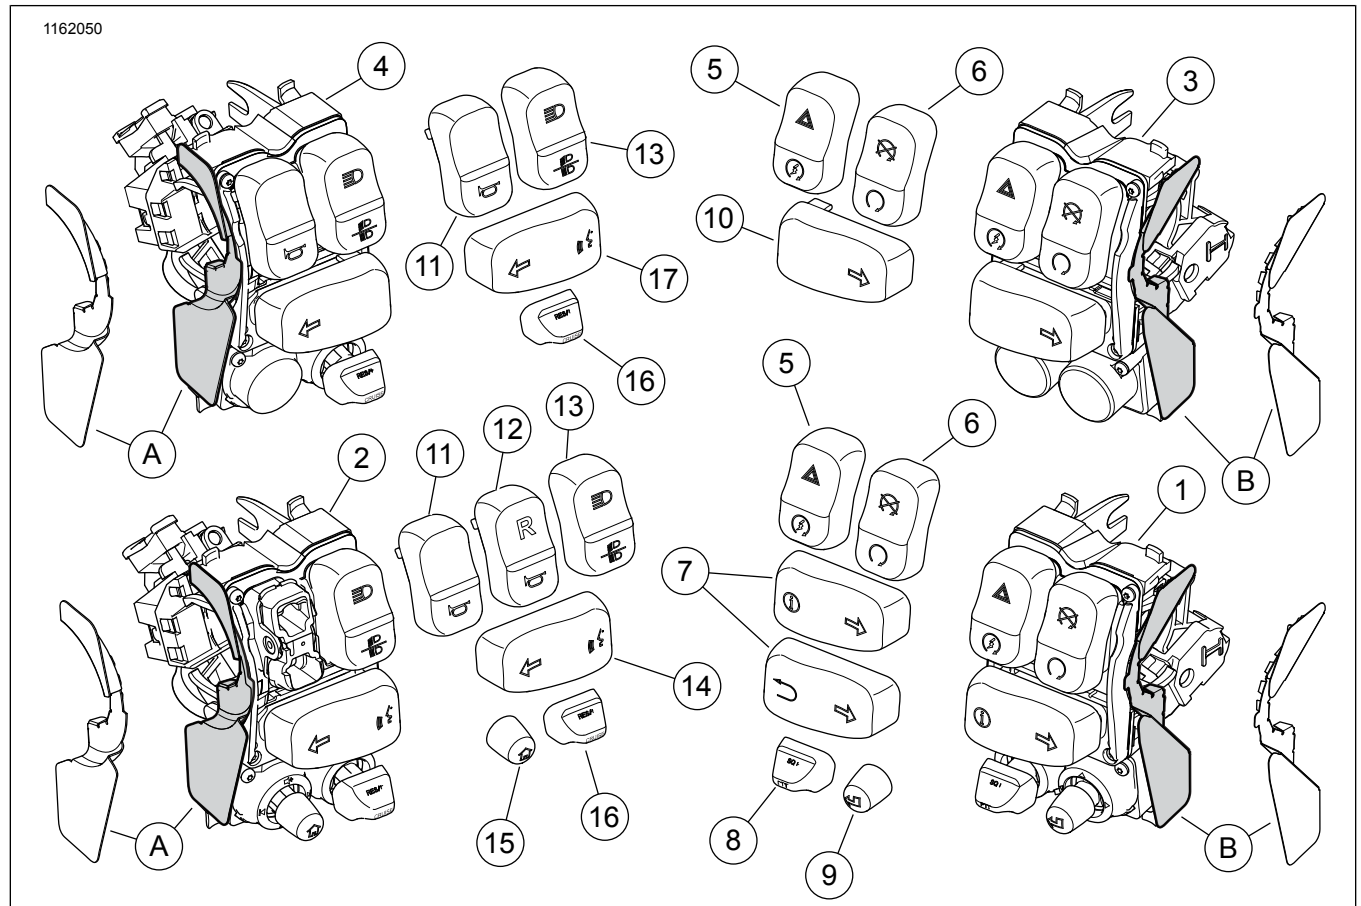

Figure 2. Service Parts, Illuminated Hand Control Switch Kits (without traction control)
See Figure 2 and Table 1.
3. See Figure 2. Get the correct **new** switch pack (1-4, 18-19) from the kit.
4. **ALL models:** Install switch pack per the service manual. Verify that harness is correctly routed to avoid damage. Close the switch pack segments around the handlebar until hearing two definite "clicks". Verify that the shield (Figure 2, Item A or B) is in correct position.